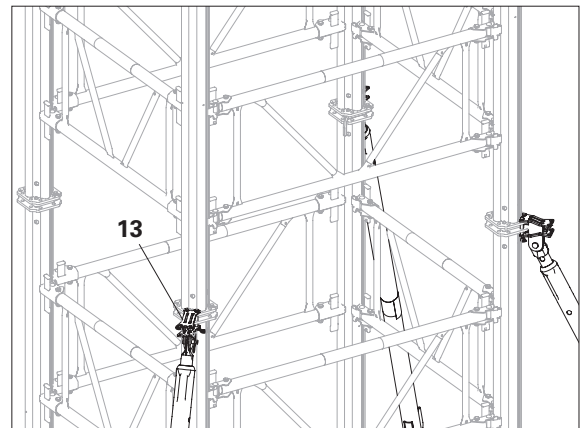

Fig. A5.02a
1. Fix Brace Connector MP MR (13) to the prop joint. (Fig. A5.02a)